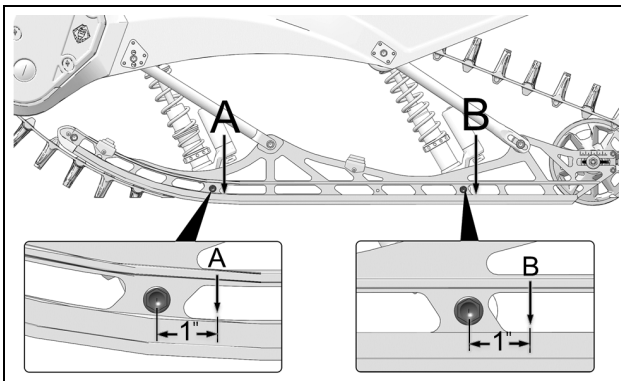

Figure 37
**Front Measurement Point (A):** Measure distance between top of rail slide and the ground, at 1.00" (25mm) back of front shock lower mounting bolt. Figure 37.
**Back Measurement Point (B):** Measure distance between top of rail slide and the ground, at 1.00" (25mm) back of back shock lower mounting bolt. Figure 37.